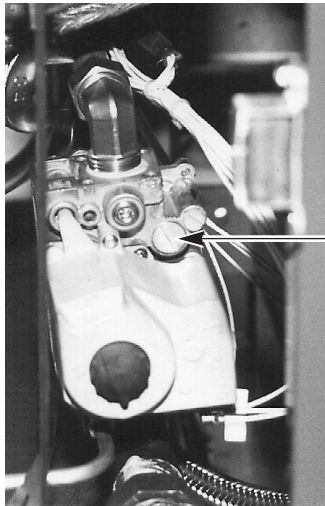

Fig. 1
2. Remove the regulator adjustment cap from the combination valve. (Fig. 1)